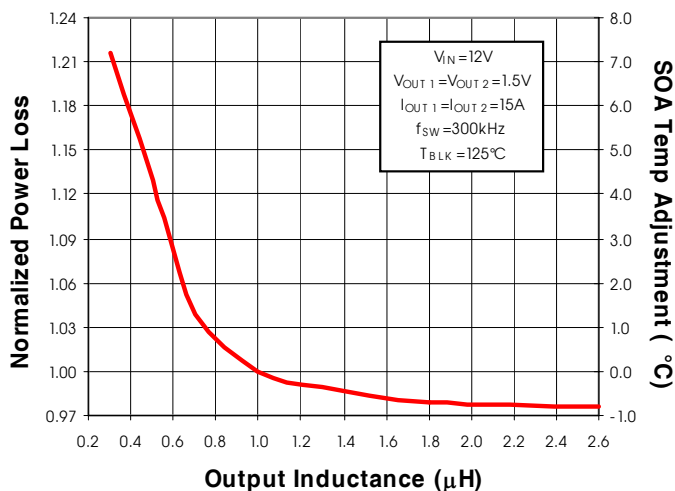

Fig. 7: Normalized Power Loss vs. Inductance
(Fig. 7) Normalized power loss for inductor value ≈ 0.98
- (Fig. 7) Normalized power loss for inductor value ≈ 0.98
- (Fig. 7) Normalized SOA Temperature for inductor value $\approx -0.7^{\circ}C$